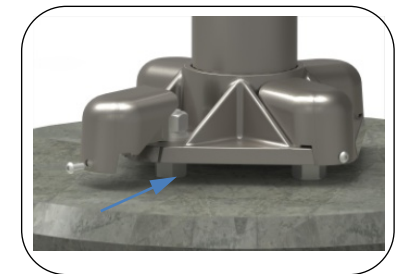

Fig. 7 – Install nut covers
7. Install the nut covers as shown in Fig. 7.